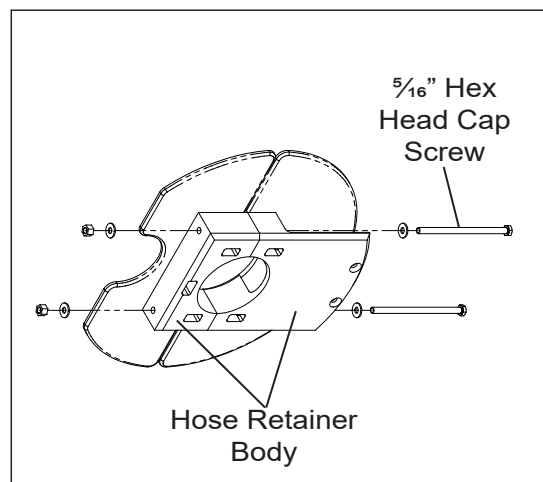

**Figure 5 – Unfolding Upper Boom**
7. Confirm whether there is sufficient overhead clearance to unfold the upper boom to 70 degrees (refer to Figure 5). If necessary, move the unit to a suitable level surface with adequate vertical clearance. Apply the parking brake, and chock the wheels.